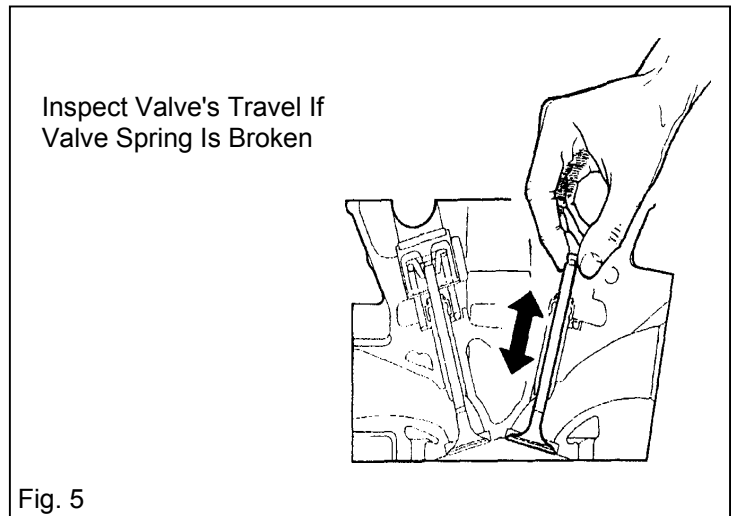

Fig. 5
6. If the valve spring is broken, move the valve and check that it moves smoothly in the valve guide. Refer to Fig. 5